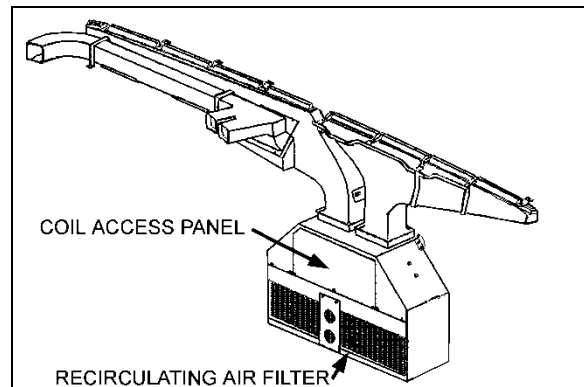

FIGURE 5: DRIVER'S UNIT AIR FILTERS
**Once a year**, gain access to the driver's unit, remove the coil access panel (Figure 5) and clean the **driver's** unit evaporator and heater coils with low-pressure air jet, taking care not to damage fins. Clean the bottom of the defrost plenum.